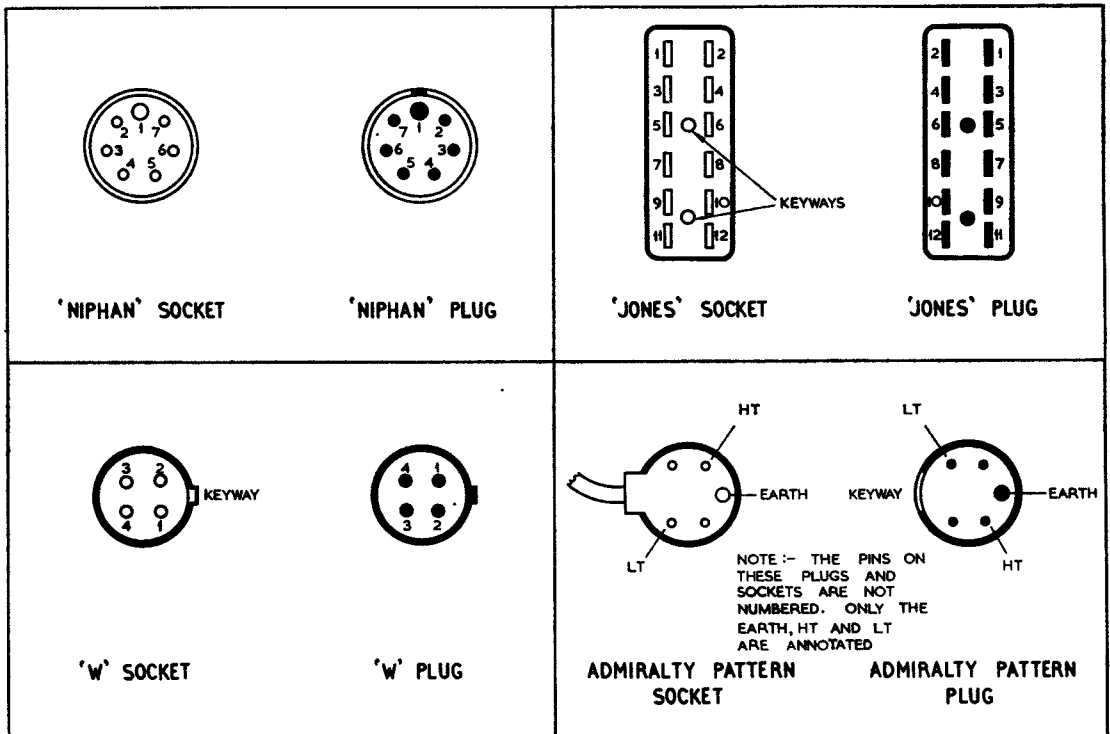

Fig. 1. Plugs and sockets : pin numbering
2. A typical site layout is shown in Chap. 1, fig. 1. The arrangement shown can be modified to suit local conditions, but it is
3. Fig. 1 and 2 illustrate the various types of plug and socket used in the installation and should prevent confusion between them. Fig. 1 also shows the pin numbering system which is used on all the variations of each type of plug. In the case of the Jones plugs and sockets it is often difficult to read the numbers and in the case of the Niphan and Admiralty types the pins are not numbered. Reference to fig. 1 and 2 should solve any identification problems which occur during initial installation or servicing.